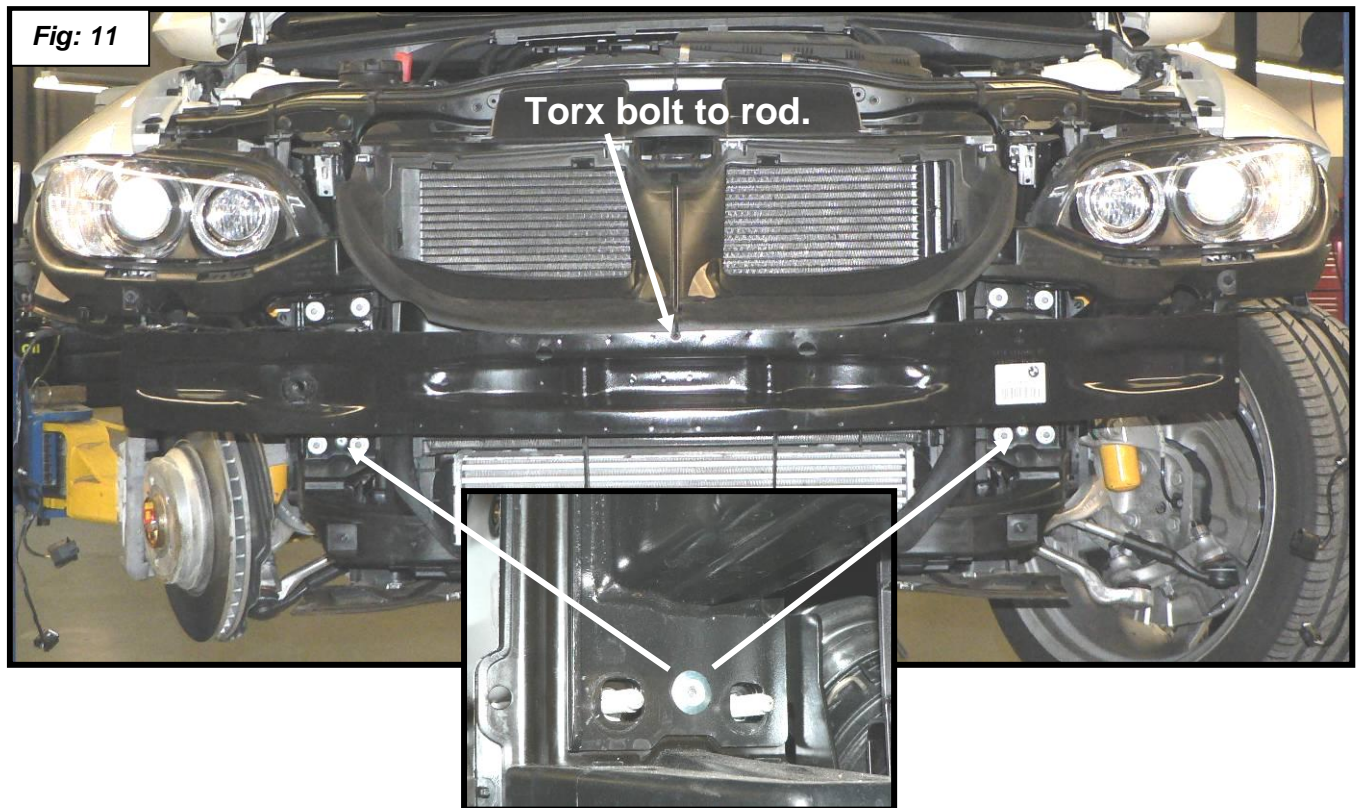

Fig: 11
17. Remove the four nuts on each side that hold the bumper to the frame as shown in figure 11. Remove the torx bolt in the center that connects the support rod.
18. Drill out rivets as shown in insert in figure 11.